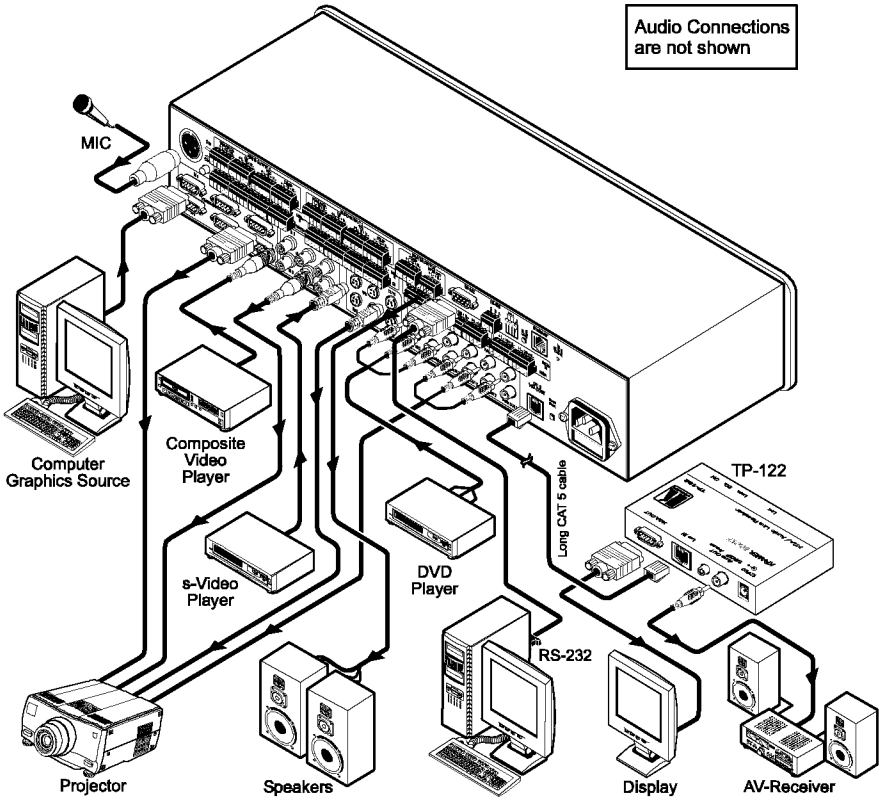

Figure 4: Connecting the VP-26 Presentation Matrix Switcher
To connect¹ the **VP-26**, as the example² illustrated in Figure 4 shows³, do the following⁴:
3 In Figure 4, the audio connections are not shown, except for the microphone and speakers connections
3. Connect the appropriate balanced audio sources and acceptors (not shown in Figure 4¹).
4. Connect the MASTER OUTPUT LINE terminal block connector, if required (not shown in Figure 4; see section 7.3).
1 In Figure 4, the audio connections are not shown, except for the microphone and speakers connections